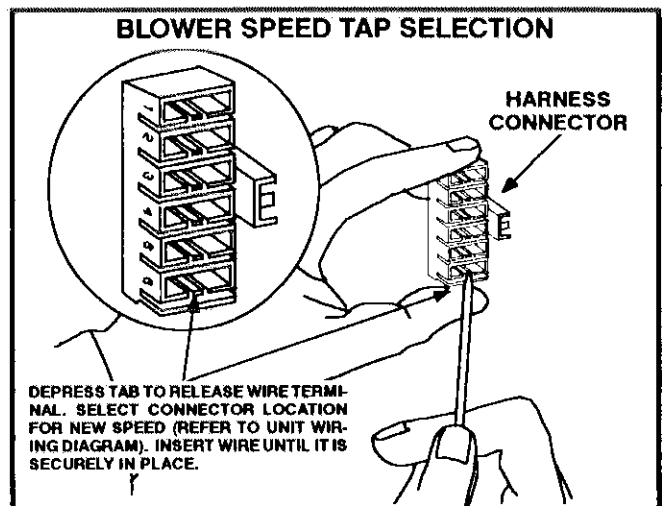

FIGURE 24
Blower speed tap selection is accomplished by changing the taps at the harness connector at the blower motor. Disconnect harness connector from motor to expose speed selectors. See figure 24 and unit wiring diagram.
- 8- Depress harness connector tab to release wire terminal. Select connector location for new speed (refer to unit wiring diagram). Insert wire terminal until it is securely in place. See figure 24.